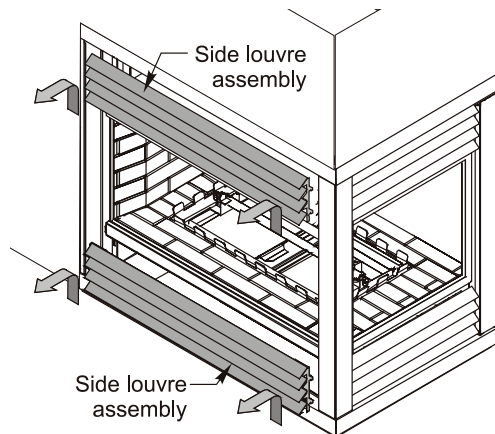

Figure 1a. Removing the louvre assemblies.
1. Remove the upper and lower louvre assemblies from one side of the fireplace. Lift the louvre assembly up and pull outwards, as shown in Figure 1a.